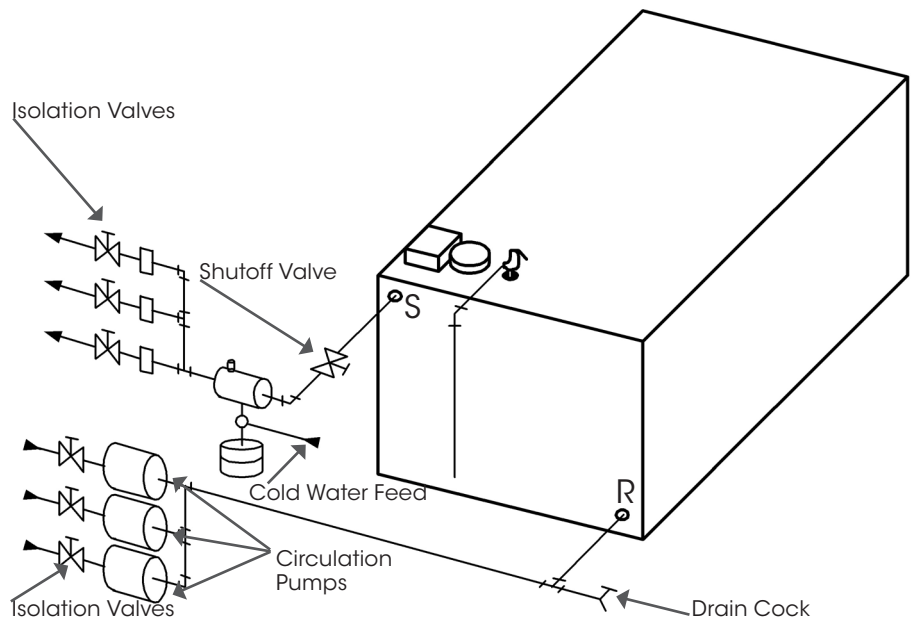

Figure 19
2. Multiple zoning with circulation: Each pump will require a separate relay (Honeywell R845A or White Rodgers 829A-845, or equivalent). Install a flow control valve in each zone including the indirect water heater to prevent gravity circulation. Install a balancing valve in each zone and adjust so that flow in each zone is about the same. See Figure 19.